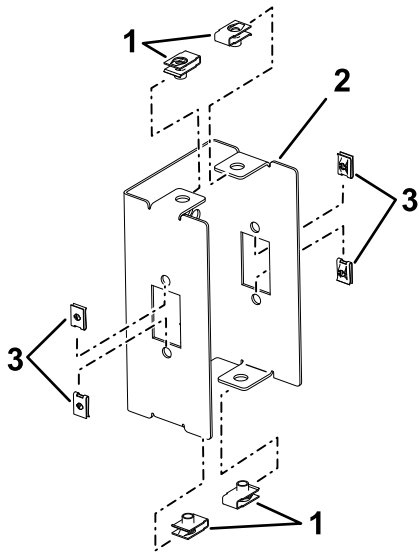

Figure 1
1. Install the large speed nuts to the top and bottom of the light bracket (Figure 1).
2. Install the small speed nuts to the sides of the light bracket (Figure 1).